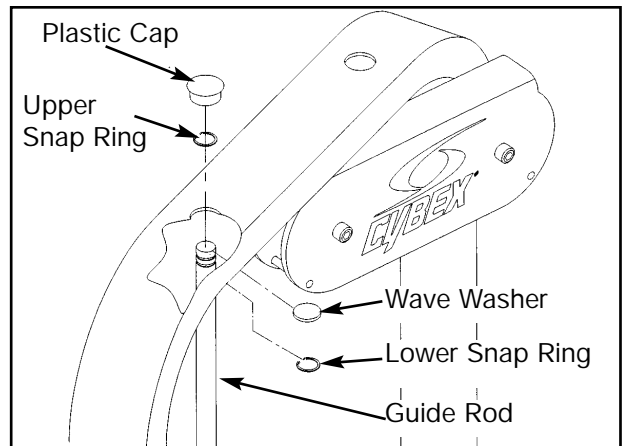

Figure 2
- Remove the plastic cap on guide rod hole by gently lifting guide rod up and down until plastic cap is forced off. Repeat this step for the other guide rod. See Figure 2.
- Raise guide rod high enough to expose the upper snap ring. Using an external snap ring pliers, remove snap ring and lower guide rod. Then remove the lower snap ring and wave washer. Repeat this step for the other guide rod. See Figure 2.
- Lean guide rod toward weight stack guard . **NOTE:** For the Hip Abduction, Hip Adduction and Rotary Calf machines, lean guide rod away from the weight stack guard. See Figure 2.